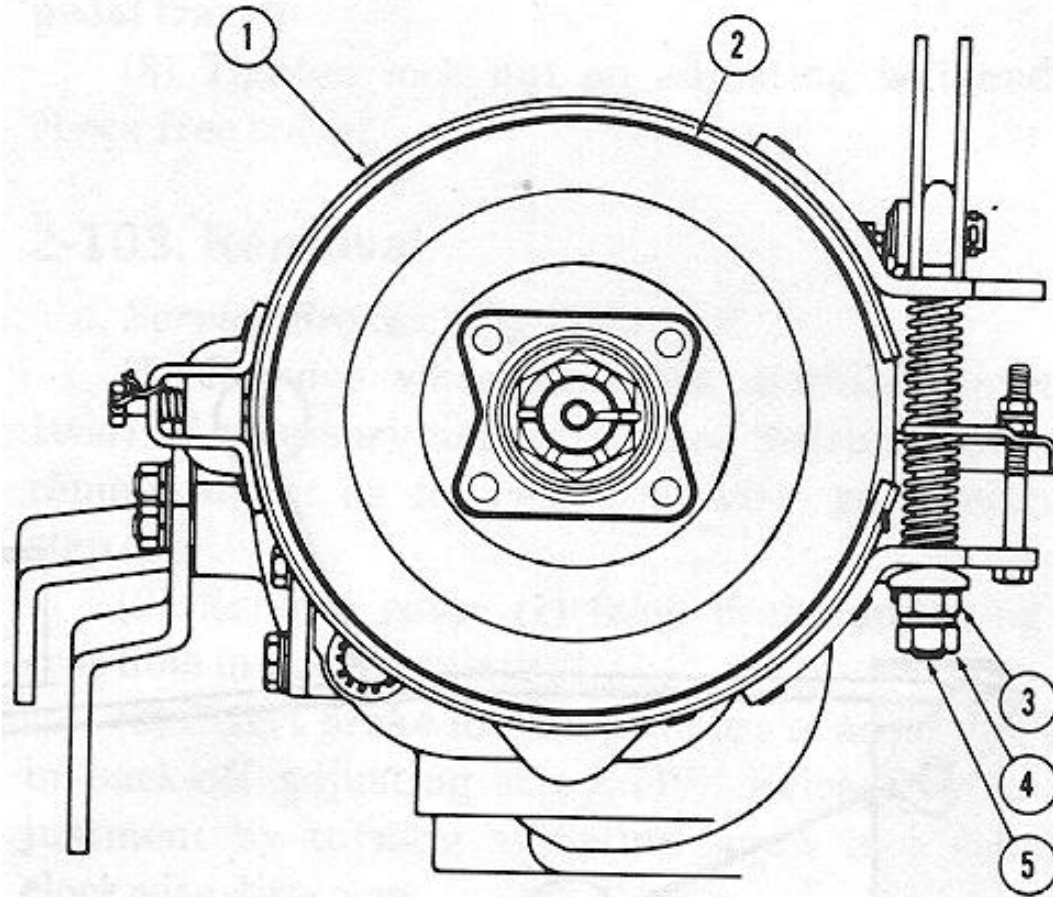
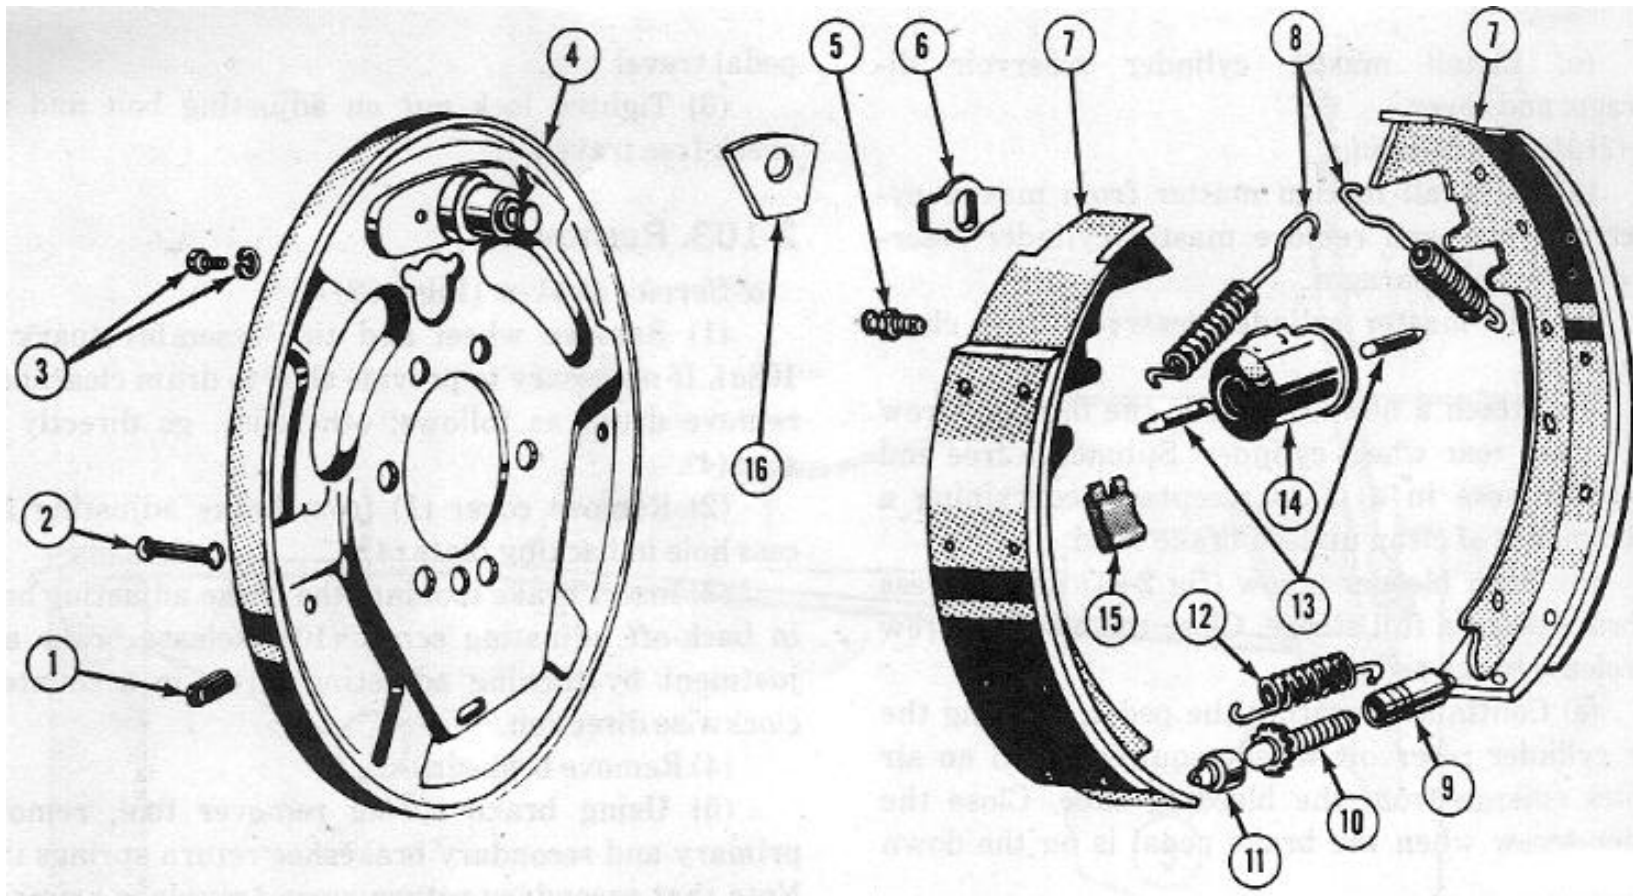

Figure 2-79. Transmission band type brake adjustment
Figure 2-82. Brake assembly
b. Hand Brake Adjustment (Fig 2-79)
(1) Place the vehicle on a level floor and place the hand brake in the fully released position.
(2) Remove the cotter pin and clevis pin that attach the control rod to the cam levers.
(3) Remove the locking wire from the anchor Screw,
(4) Loosen the two jamnuts on the adjusting J-bolt and the two jamnuts on the adjusting screw.
(5) Insert a 0.015-inch thickness gage between the brake lining and the drum at the anchor clip. Turn the anchor screw as required until slight friction is felt as
a. Service Brakes. (Fig 2-82)
- (1) Remove wheel and tire assembly (para 2-108a). If necessary to provide shoe to drum clearance, remove drum as follows; otherwise, go directly to step (4).
- (2) Remove cover (1) from brake adjusting access hole in backing plate (4).
- (3) Insert brake tool into the brake adjusting hole in back-off adjusting screw (10). Release brake adjustment by turning adjusting screw in a counterclockwise direction.
- (4) Remove brakedrums.
- (5) Using brake spring remover tool, remove primary and secondary brakeshoe return springs (8). Note that secondary return spring overlaps primary return spring.
- (6) Remove anchor pin washer (6), holddown spring (15) and holddown pins (2).
(7) Remove primary and secondary brakeshoe assemblies (7) and adjusting screw assembly (9, 10, 11) and spring from backing plate (4).
b. Hand Brake. (Fig 2-79)
(1) Disconnect the brake rod from the brake cam lever.
(2) Remove 3-inch screw from lining assembly and cast bracket,
(3) Cut brake band anchor lock wire and remove brake band anchor clip screw, taking care not to lose brake band anchor spring located inside the bracket.
(4) Remove two brake adjusting nuts from brake adjusting bolt. At this point, loosen the two bolts holding the ends of the rear transfer case crossmember until the crossmember drops approximately ½-inch.
(5) Lift brake adjusting bolt upwards until it clears the lower ear of the brakeshoe assembly and remove the bottom spring.
(6) Continue to lift the brake adjusting bolt and pull the brakeshoe assembly rearward at the same time until the brake band bolt clears the cast retainer.